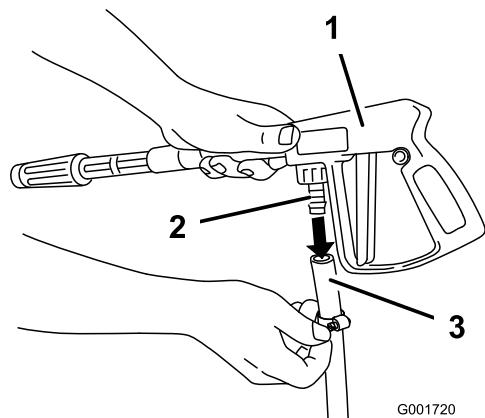

Figure 35
5. Connect the end of the hose to the fitting on the spray gun (Figure 35), and secure the hose end with the small clamp.